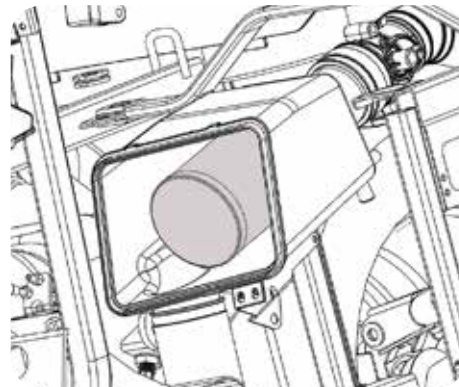

Figure 5-28
3. Remove the air filter element. See Figure 5-28.